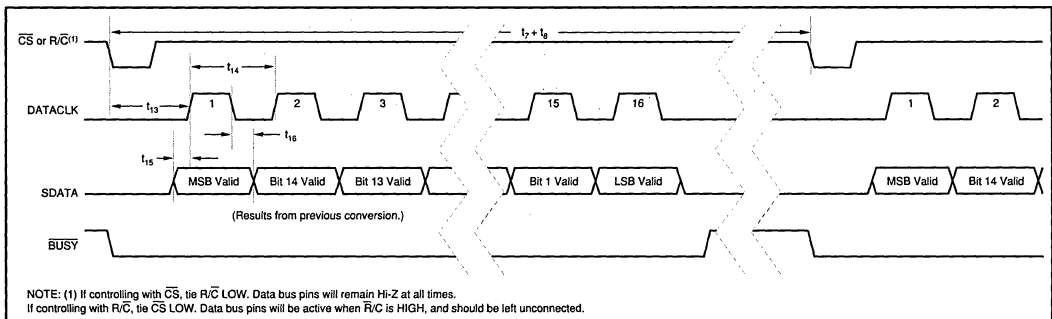

FIGURE 4. Serial Data Timing Using Internal Data Clock (TAG tied LOW).
NOTE: (1) See Figures 4, 5, and 6 for constraints on data valid from conversion "n-1".
To use the internal data clock, tie $\overline{EXT}/\overline{INT}$ (pin 8) LOW. The combination of R/\overline{C} (pin 22) and \overline{CS} (pin 23) LOW will initiate conversion 'n' and activate the internal data clock (typically 900kHz clock rate). The ADS7807 will output 16 bits of valid data, MSB first, from conversion 'n-1' on SDATA (pin 19), synchronized to 16 clock pulses output on DATACLK (pin 18). The data will be valid on both the rising and falling edges of the internal data clock. The rising edge of \overline{BUSY} (pin 24) can be used to latch the data. After the 16th clock pulse, DATACLK will remain LOW until the next conversion is initiated, while SDATA will go to whatever logic level was input on TAG (pin 20) during the first clock pulse. Refer to Table VI and Figure 4.